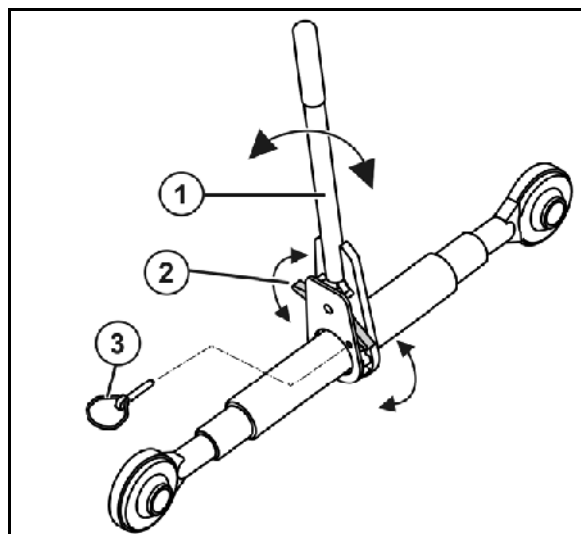

Fig. 36
1. Remove the clip pin (Fig. 36/3).
2. Engage the turning lever (Fig. 36/2) in the required direction.
3. Use the hand lever (Fig. 36/1) to lengthen or shorten the spindle.
4. Secure using the clip pin (Fig. 36/3).